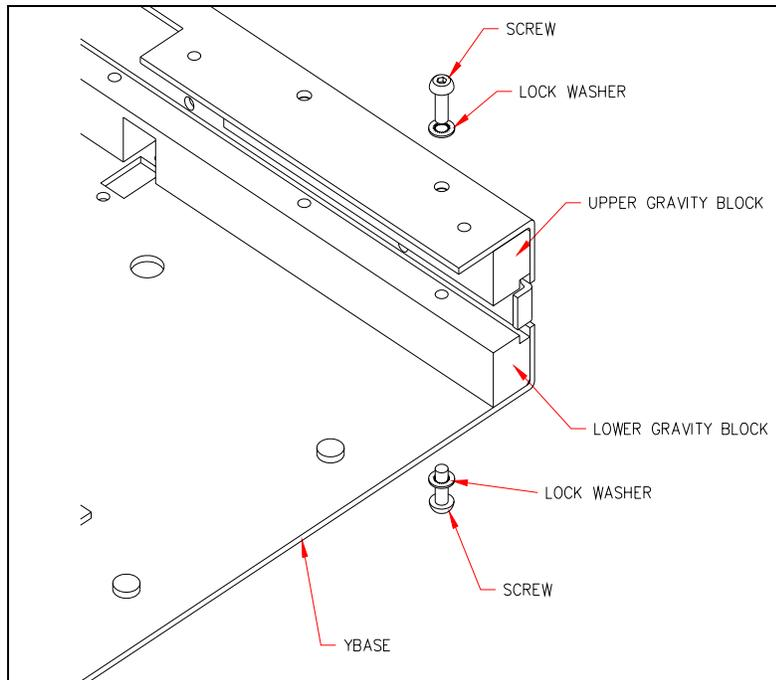

Figure 11-32 Removing the Gravity Blocks
- 1 Remove the upper gravity block (or plate in later models) in the XY base by removing the 2 M3 x 6mm button head screws and 2 M3 lock washers (Figure 11-32).